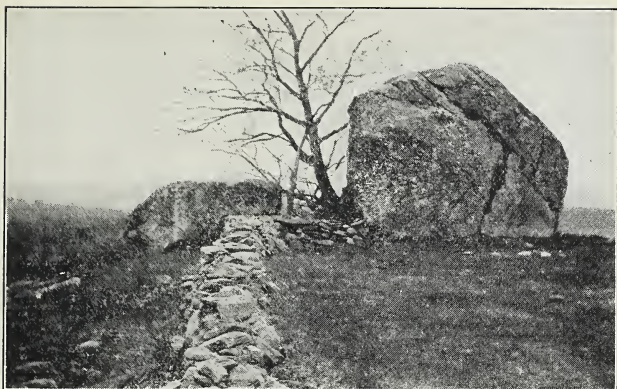

Fig. 397. The stone fences of the New England farms are built of stone left by the glacier. These two immense boulders were carried by the glacier.
**Colonial farms.** In the days when there were only a few white people in the narrow strip of scattered settlements along the Atlantic coast, each farmer colonist had to raise the variety of food that his family and domestic animals needed. Vegetables, wheat, corn, hay, and oats were essential. In the rocky acres of New England he had the work of almost a lifetime to clear the trees and stones from a farm of any size (Fig. 397). The miles of stone fences hemming in fields there still testify to the arduous labor he performed with the aid of a few simple tools and a team of horses or a yoke of oxen. The freezing season of six months or more limited the kind of crops he could produce. But farther to the south the colonists could easily till the fertile river-bottom lands and with the warmer sunshine obtain a large yield from their plantations. General Washington was a leader among farmers, and was constantly on the lookout for improved strains and new varieties of foodstuffs and better ways of cultivation.